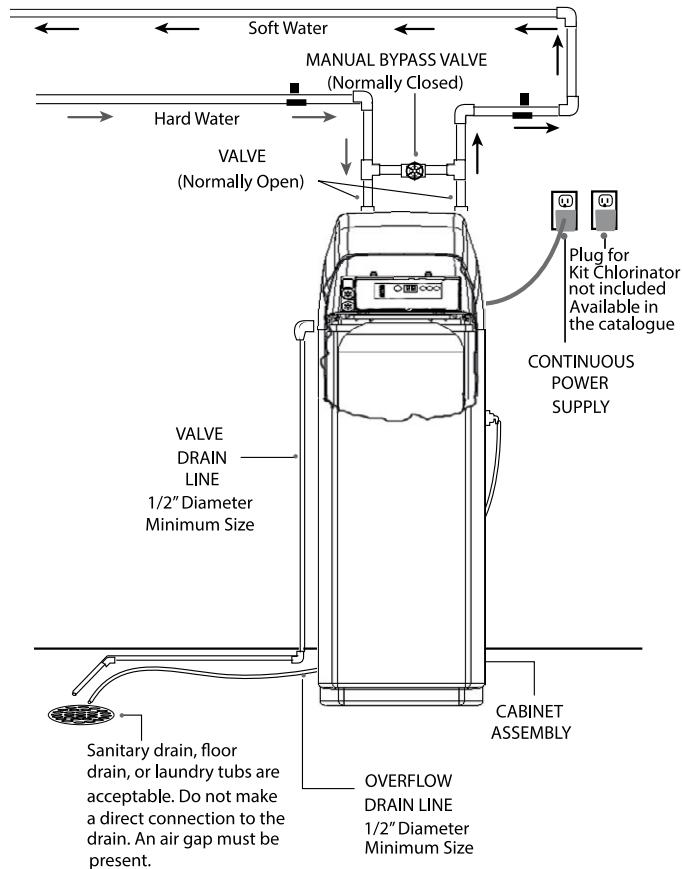

Figure 6
4. Shut off the water to the home. Open the highest faucet in the plumbing system and then the lowest (you cannot work on pipes with water in them). Make necessary piping changes for connection of the filter to the plumbing of the home (see Figure 6).
7. Connect the inlet and outlet piping. The valve back plate threads are 3/4" BSPT. Be sure you have the incoming water connected to the right side (Figure 6).
Typical Drain Hookups (Figure 6)